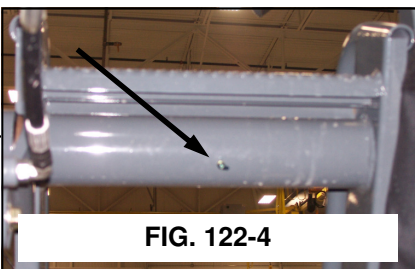

FIG. 122-4
**LADDER**— The ladder pivot tube (figure 122-4) has a grease zerk that needs to be lubed every 50 hours or as needed.